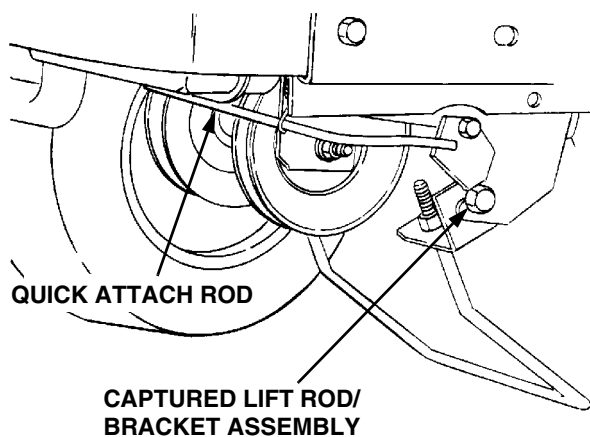

Figure 31
- Release the tractor quick-attach rod to capture the front lift rod/bracket assembly in the tractor latch receivers (See Figure 31).